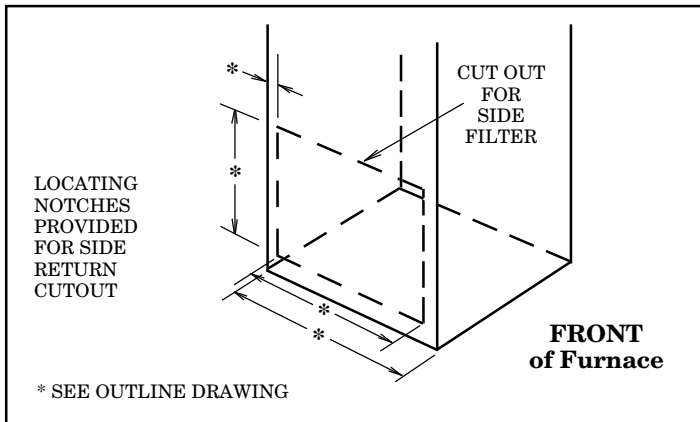

FIGURE 12
3. The side panels on upflow furnaces include locating notches which may be used as guides for cutting an opening for return air. Refer to Figure 12 and the Outline Drawing on page 4 for duct connection dimensions for various furnaces.
4. If a 3/4" flange is to be used for attaching the air inlet duct, add to cut where indicated by solid lines in Figure 12. Cut corners diagonally and bend outward to form flange.